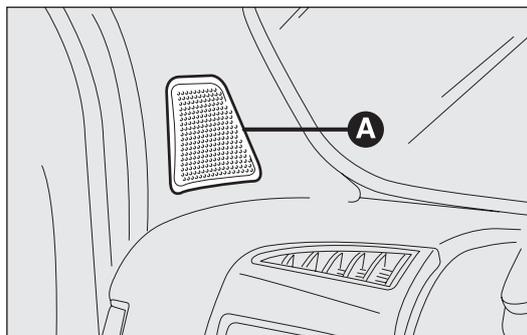

fig. 132
- 2 tweeters **A** on the front pillars (30 W max power each), fig. 132;